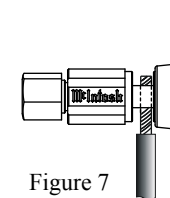

Figure 7
12. Connect the Loudspeaker hookup cables to the MC462 Negative Output Terminal and Positive Output Terminal identified as 2Ω (ohms), 4Ω (ohms) or 8Ω (ohms) connection to match the impedance of the Loudspeaker, being careful to observe the correct polarities. Insert the spade lug connector or prepared section of the cable end into the terminal side access hole, and tighten the terminal cap until the cable is firmly clamped into the terminals so the lugs or wire cannot slip out. Refer to figures 7 and 8.
14. Connect the Loudspeaker hookup cables to the MC462 Negative Output Terminal and Positive Output Terminal identified as 2Ω (ohms), 4Ω (ohms) or 8Ω (ohms) connection to match the impedance of the Loudspeaker, being careful to observe the correct polarities. Insert the spade lug connector or prepared section of the cable end into the terminal side access hole, and tighten the terminal cap until the cable is firmly clamped into the terminals so the lugs or wire cannot slip out. Refer to figures 7 and 8.